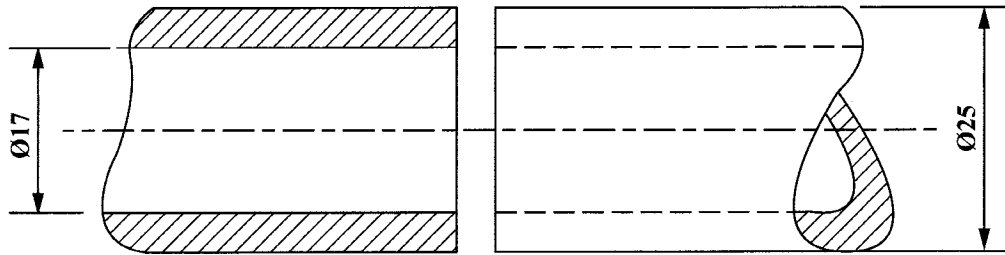

Figure 7. Steel pipe
7. Figure 7 shows two pieces of steel pipe which are to be welded end to end using the acetylene or arc welding process.